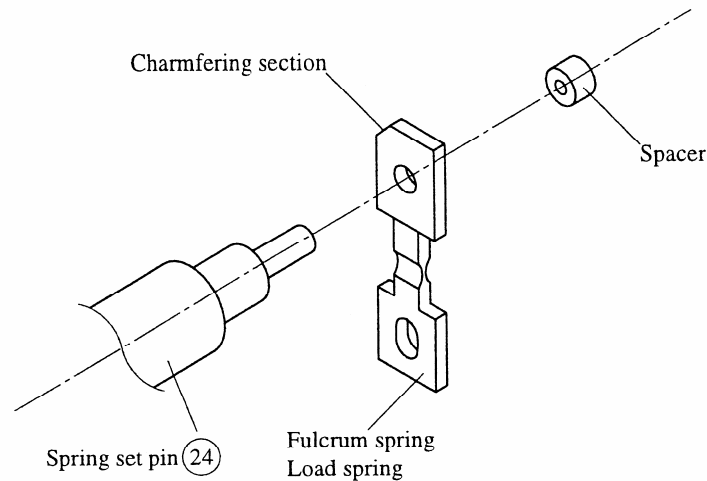

Fig. 14-1
- (b) Insert spring set pin (24*) into the upper hole and lightly tighten the lower bolt ensuring that each spring will not move. (See Fig. 14-1 on page 15.)